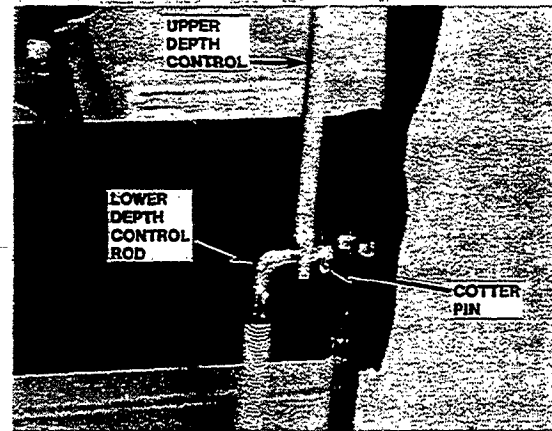

Figure 4
4. Secure depth control rod with cotter pin placing pin into hold (be sure to spread legs of cotter pin) in lower depth control rod (See Figure 4).